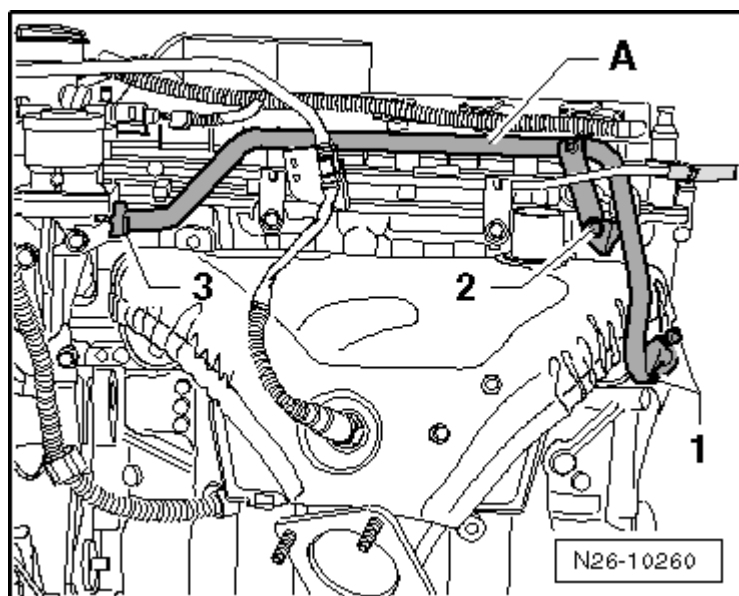

Fig. 30: Connecting Tube - Tightening Sequence
-- Follow the correct tightening sequence when installing the AIR pipe -A-, if necessary. Refer to **Fig. 30**.